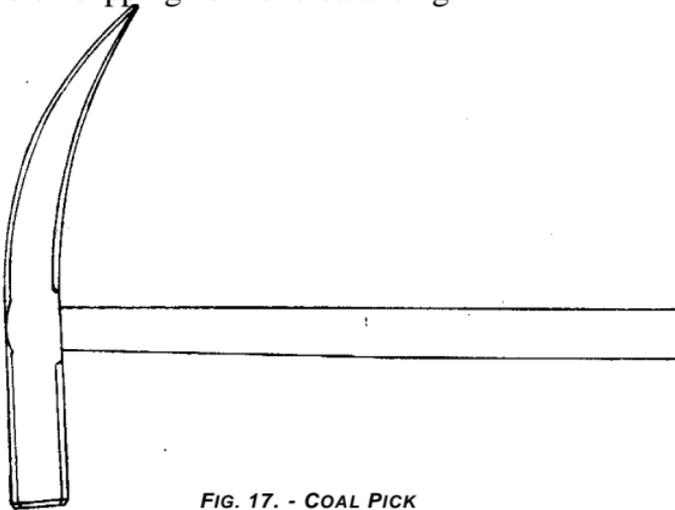

FIG. 17. - COAL PICK
**Coal Pick**—The coal pick (Fig. 17, page 30) is used for loosening coal in the tender and for breaking large lumps of coal.